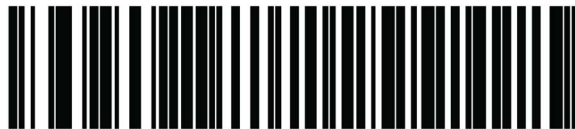

Figure C-4. Barcode 1: *HID Keyboard Emulation
3. Configure the barcode scanner by scanning the barcodes shown in Figure C-4 through Figure C-8, in order:
If any barcodes do not scan correctly, unplug the barcode scanner from the computer and repeat the configuration procedure starting with Step 2 in Section C.5.1 or Step 2 in Section C.5.2 and rescan the barcodes shown in Figure C-4 through Figure C-8.